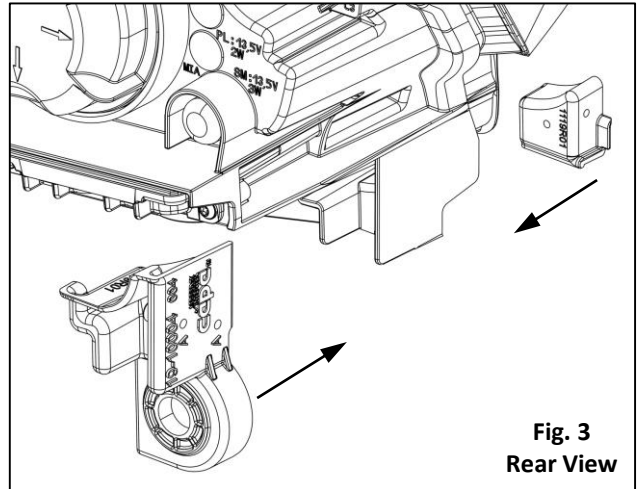

Fig. 3
2. Dry-Fit: Dry-fit the repair tab(s) **Fig. 3**. If the tab fits without resistance and makes a flush fit to the housing, trimming is complete. If the tab resists installation re-trim the damaged tab, removing only small amounts of material. Repeat the Dry-Fit steps until the proper fit is achieved.